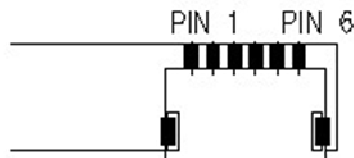

Figure1. Top View of LED Bar Connector
2. Contrast measurements shall be made at viewing angle of  $\theta = 0^\circ$  and at the center of the LCD surface. Luminance shall be measured with all pixels in the view field set first to white, then to the dark (black) state. (See FIGURE 1 shown in Appendix) Luminance Contrast Ratio (CR) is defined mathematically.